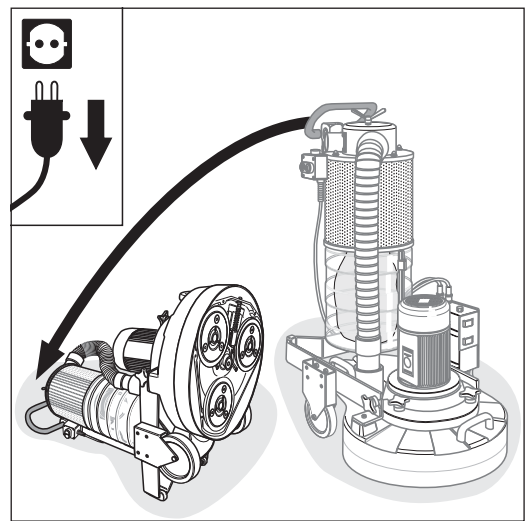
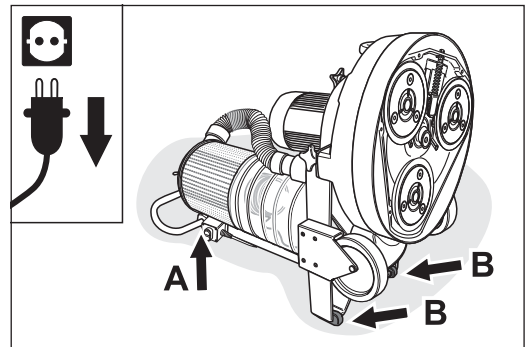

Fig. 101 Carefully tilt the machine backwards.
Fig. 102 Make sure that the machine gets to rest on the guide tube (**A**) and the two protective rubbers (**B**). **Make sure the machine is in a safe position!**
- 8 While holding on to the handle, carefully tilt the machine backwards into a horizontal position (fig. 101). Make sure that the machine gets to rest on the guide tube (fig. 102, **A**) and the two protective rubbers (fig. 102, **B**). **Make sure the machine is in a safe position!**